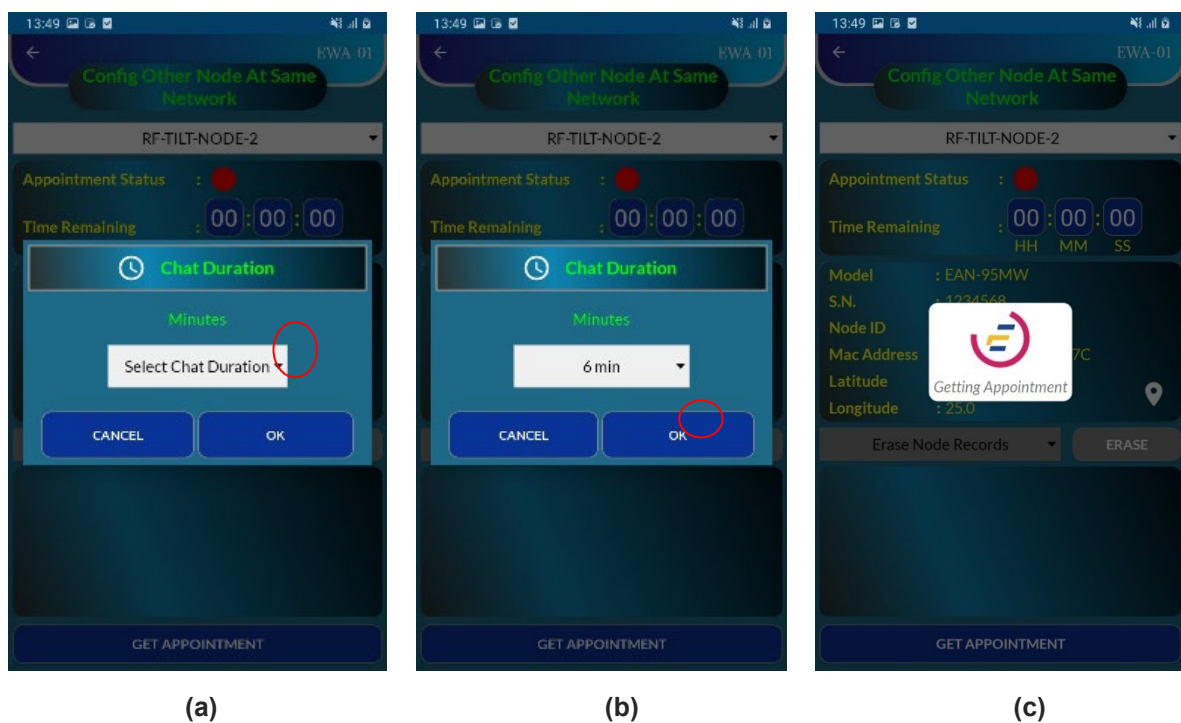

Figure 7-7
- Click on the "GET APPOINTMENT" tab to establish a live connection with the chosen node. Please refer to the images in figure 7-7 for detailed instructions on obtaining an appointment from the node.